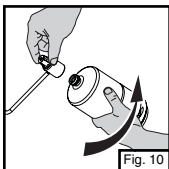

Fig. 10
- Remove plastic cap from top of propane bottle and screw propane bottle into regulator hand tight. (Fig. 10)